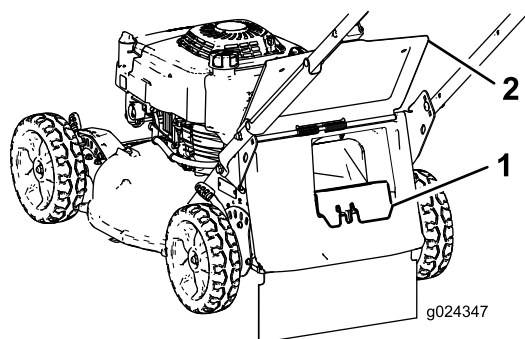

Figure 17
- If the rear-discharge plug is not installed, grip it by the handle, raise the rear door, and insert it into the rear-discharge chute until the latch locks into place (Figure 17).
1. Rear door 3. Notch (2)
2. Bag-rod end (2) 4. Grass bag
3. Remove the rear-discharge plug by pushing in the latch with your thumb and pulling the plug out from the machine (Figure 17).